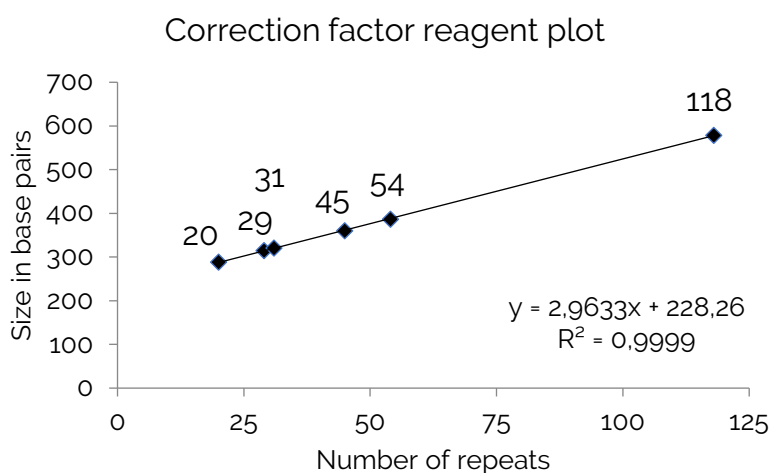

Figure 2. Correction factor reagent plot
2. In Excel or similar program, create a table with the previous data and the number of triplet repeats of each allele and insert a scatter chart. Perform a linear regression obtaining the corresponding equation to the linear fit (Figure 2).